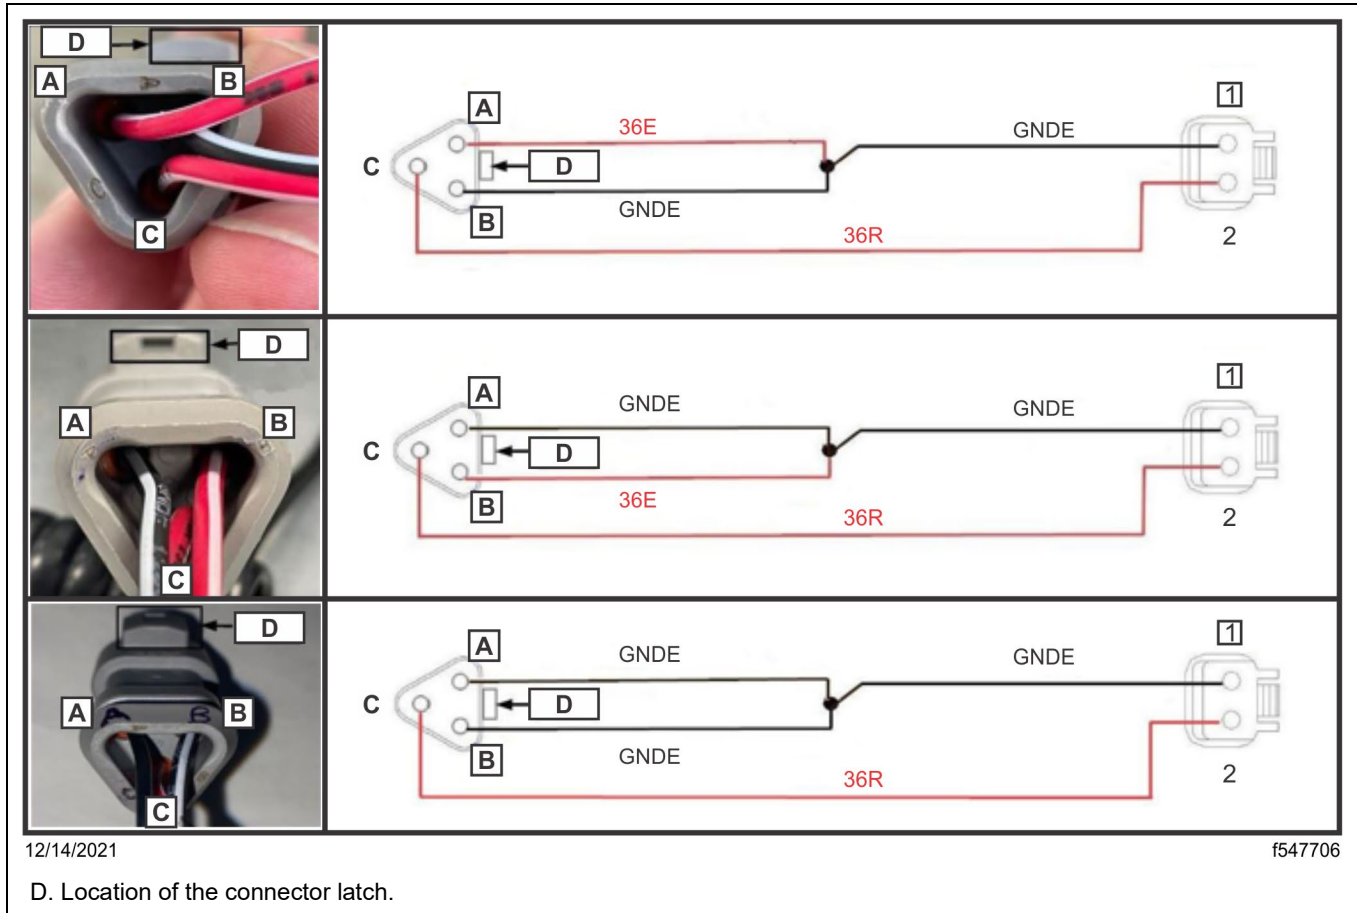

Fig. 12, Approved Jumper Harness
6. Install the jumper harness, as shown in Fig. 10, on the dash connector shown in Fig. 11, then connect it to the new 2-pin brake light pressure switch. See Fig. 12 for details of approved jumper harness variations.